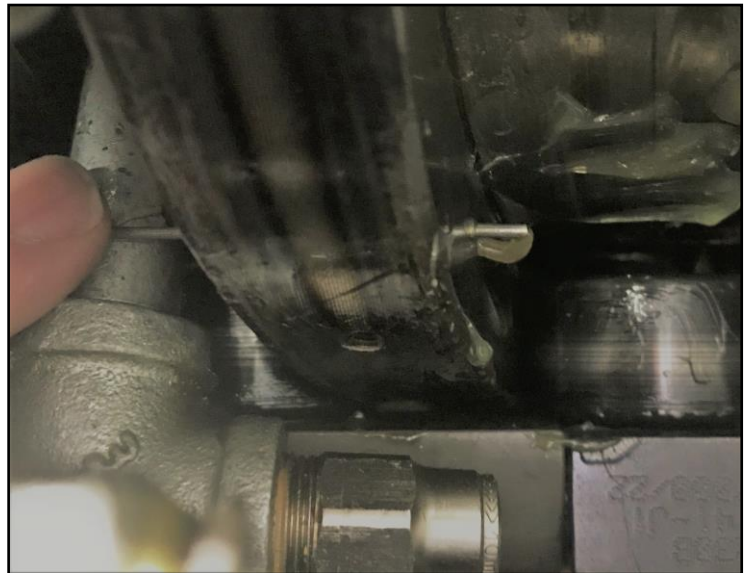

Fig 1
- Using a 2mm steel rod or similar (Fig 1), pass the rod through the grease port until it exits out of the other side. This action should discharge whatever blockage is present, meaning grease should be expelling once again onto the cam face.